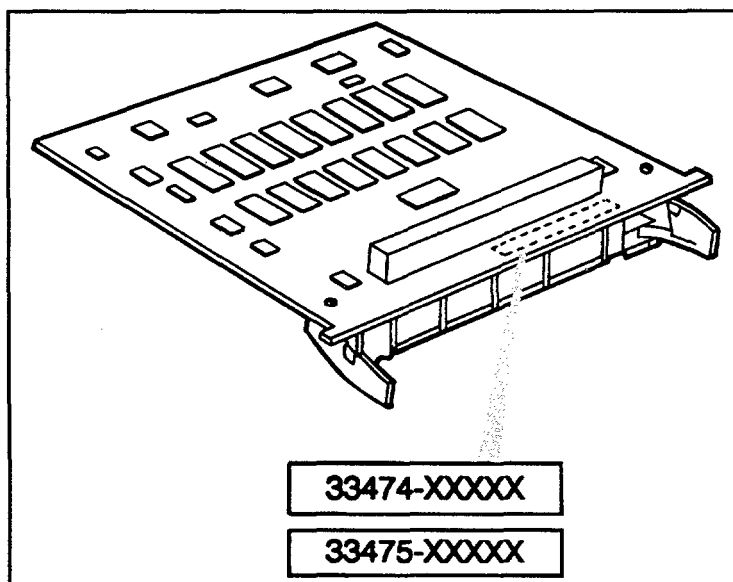

Figure C-1. Memory Board Identification
1. For part numbers, refer to Figure C-1 and the table below (XXXXX indicates that the last five digits are manufacturing numbers that may change).